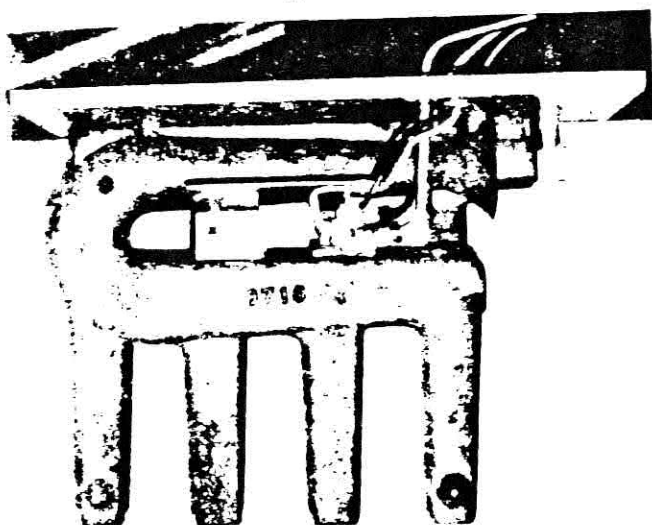

Figure 4
5. Install pilot burner and attaching bracket to burner casting using screws provided in kit. See Figure 4.